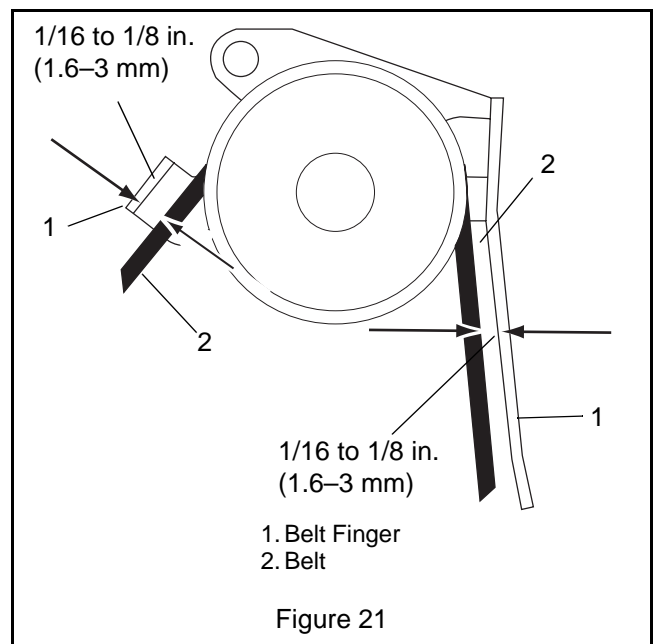

Figure 21
**IMPORTANT:** BELT FINGER MUST BE between 1/16 to 1/8 in. (1.6–3 mm) from belt with attachment clutch engaged or belt grabbing may occur causing impeller to rotate while attachment clutch is disengaged (Figure 21).
With clutch lever engaged, belt fingers should be 1/16–1/8 in. (1.6 - 3.0 mm) from belt. Adjust belt fingers as necessary. See Figure 21.